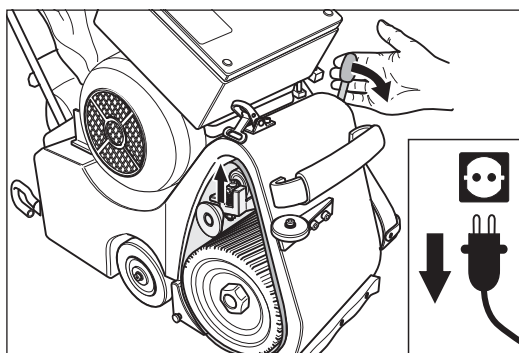

Fig. 18 Tension the sanding belt by lowering the operating lever. **Otherwise, damage or injury can occur!**
- 12 To tension the sanding belt, press the operating lever of the drive unit downwards (fig. 18). **Otherwise, damage or injury can occur!**
- **Always** tension the sanding belt before switch on the machine (fig. 18)!